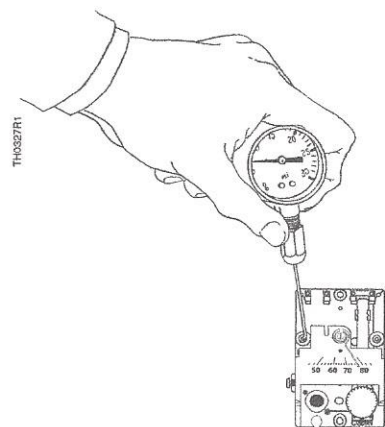

Figure 5. TH192 S Thermostat Output Pressure Test Port.
The output pressure test port (Figure 5) is accessible without removing the thermostat cover through the 8th opening:
4. Moisten the needle and insert the test gauge and needle adapter in the output pressure test port (Figure 5). Read the control pressure.
Before troubleshooting the thermostat per *Table 1*, make certain there is clean dry supply air at 18 psi (124 kPa) minimum. Use the test probe gauge and needle adapter to measure the control pressure at the output test port (*Figure 5*). The output pressure test port is accessible without removing the thermostat cover through the 8th opening from the top as follows: